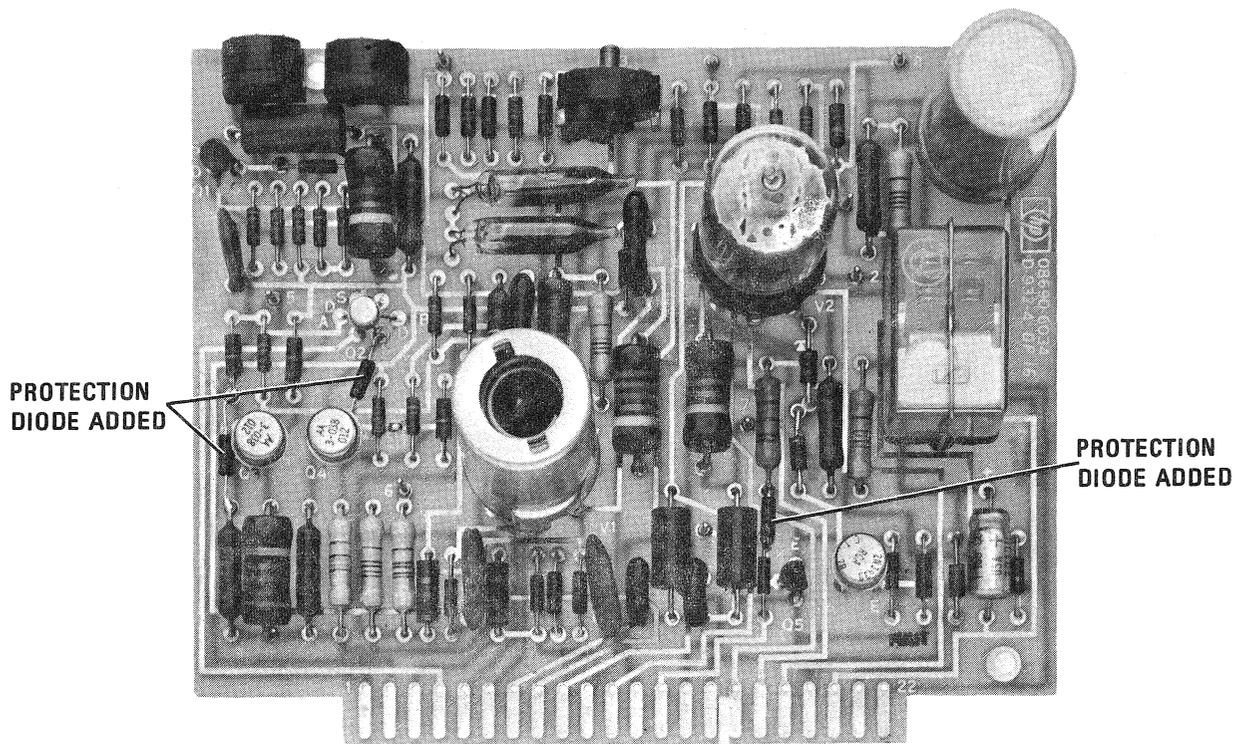

Figure 2. Modified A3 Reciprocal Amplifier Board Assembly
11. Install three protection diodes (HP Part No. 1901-0033) to Q3, Q4, and Q5. The diodes should be connected from the base to the emitter of the transistors with the anode connected to the base of the transistor and the cathode connected to the emitter. See Figure 2. Remove and discard Q6; and replace with Silicon Transistor (HP Part No. 1854-0079).